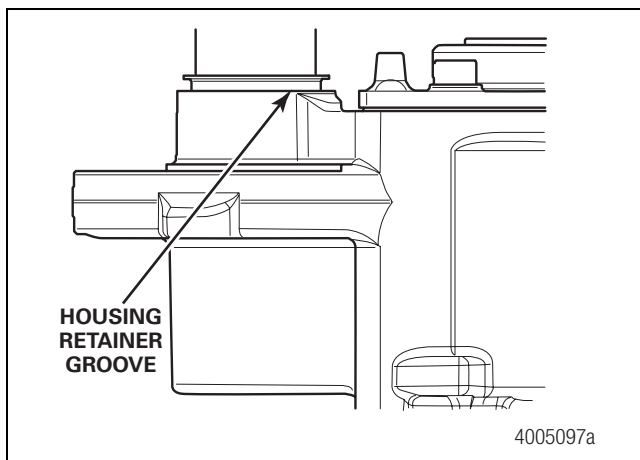
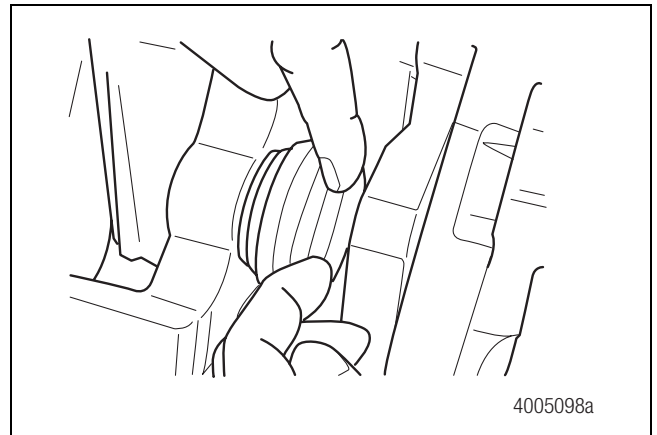

Figure 5.49
Figure 5.50
3. Install the slide pin boot beads into the housing retainer grooves. Figure 5.49 and Figure 5.50.